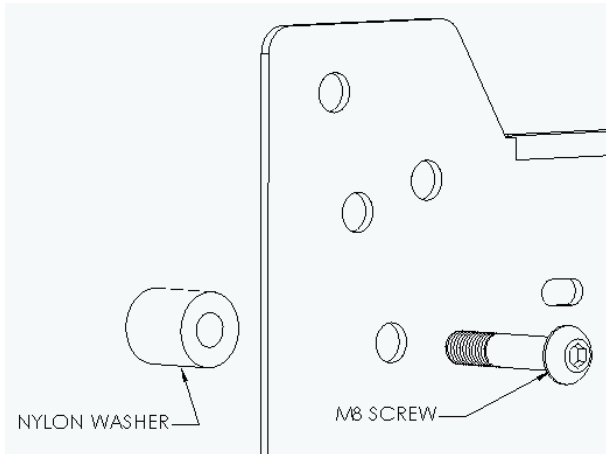
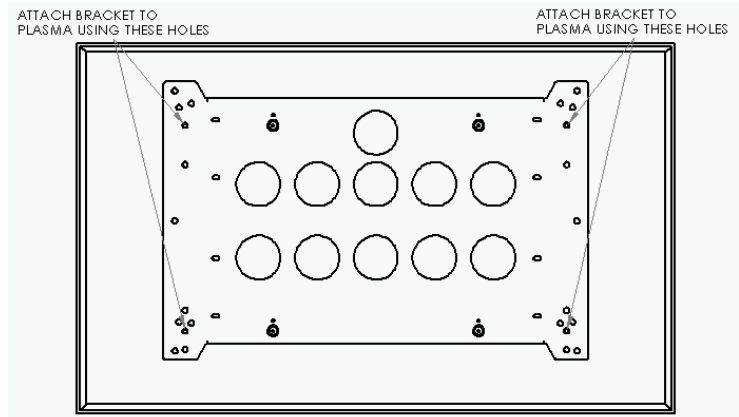

Figure 4
Figure 5
2. Place nylon spacers on mounting holes and align hole pattern on brackets with pattern on back of Plasma Display (see Figure 4 & Figure 5). Attach bracket utilizing the M8 button head screws.